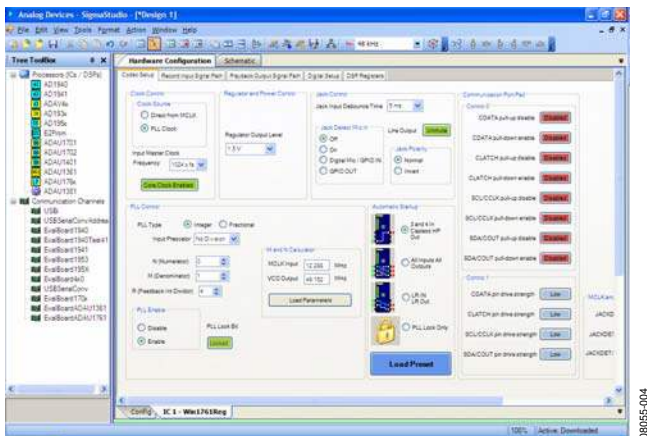

Figure 4. Hardware Configuration Tab—Register Setup
4. In the **IC1-ADAU1761 Register Controls** tab, select the **3 and 4 in, Capless HP Out** option from the **Automatic Startup** list and click **Load Preset** (see Figure 4).